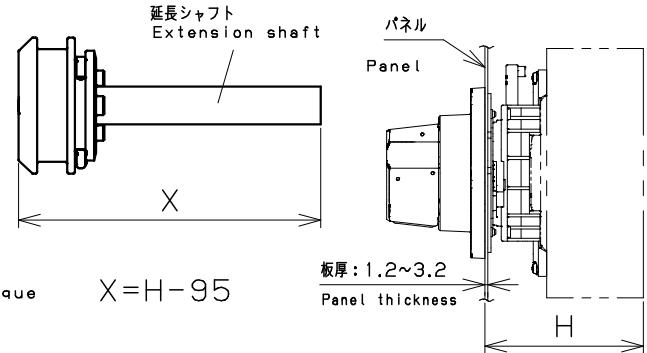

図6 Fig. 6
2. 奥行き寸法の調整(図6, 表2)
2. Adjustment of the depth(Fig. 6 and Table 2)